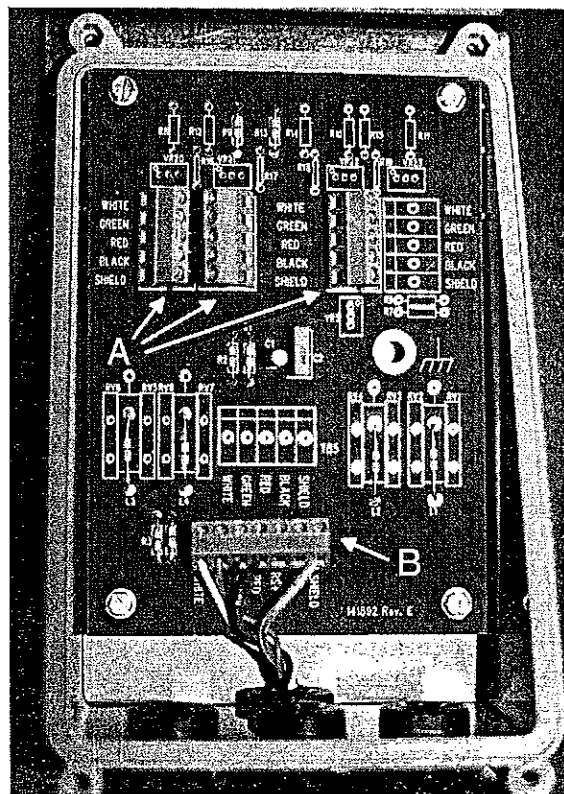

Figure 40. Terminal Strips.
5. Strip ¼-inch of insulation from the individual color coded wires. Install the wires from each weighbar cord to a terminal strip (Figure 40-A) according to the color code.
6. Locate the terminal strip for the indicator to junction box cord (Figure 40-B). Reverse the red and green wires (terminal location numbers E3 and E6) on this terminal strip only.